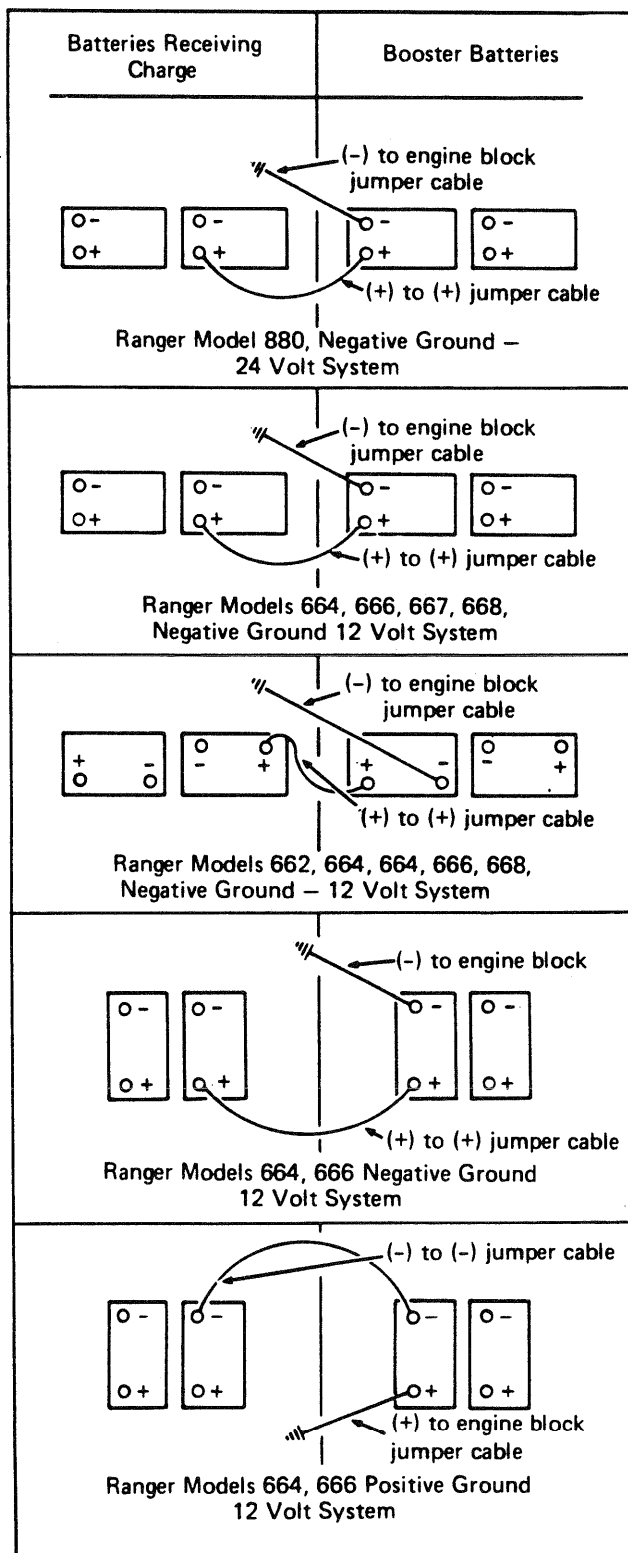

Fig. 14-2 Battery Jump-Start
- a. Attach one end of one jumper cable to the positive terminal of the booster battery (identified by a red colour, "+", "P", or "POS" on the battery case, post or clamp), as shown in Figure 14-2. Attach the other end of the same cable to the positive terminal of the discharged battery.
- b. Attach one end of the second jumper cable to the negative terminal of the booster battery (identified by black colour, "-", "N", or "NEG" on the battery case, post or clamp) as shown in Fig. 14-2. Take care that the clamps do not touch the clamps of the other cable. Connect the other end of the cable to the engine block, alternator or any other accessible metallic part attached to the engine block that is not painted, chrome plate, heavily rusted, or covered with grease. This last connection should be made at least a foot or more from the dead battery so that any sparking when the cable is connected or disconnected is away from any hydrogen gas produced by the battery.
- b. Attach one end of the second jumper cable to the positive terminal of the booster battery (identified by a red colour "+", "P", or "POS" on the battery case, post or clamp) as shown in Fig. 14-2. Attach the other end of the cable to the engine block, alternator or any other accessible metallic part attached to the engine block that is not painted, chrome plated, heavily rusted